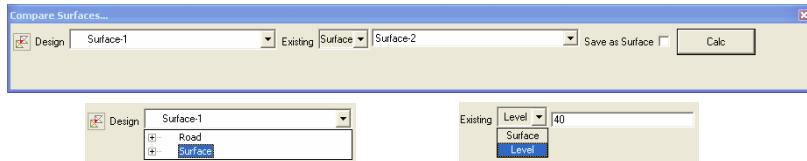

Figure 9-81. Select Surfaces and Roads or Surface and Horizontal Plane
3. Click the **Calc** button on the *Compare Surfaces* window (Figure 9-81).